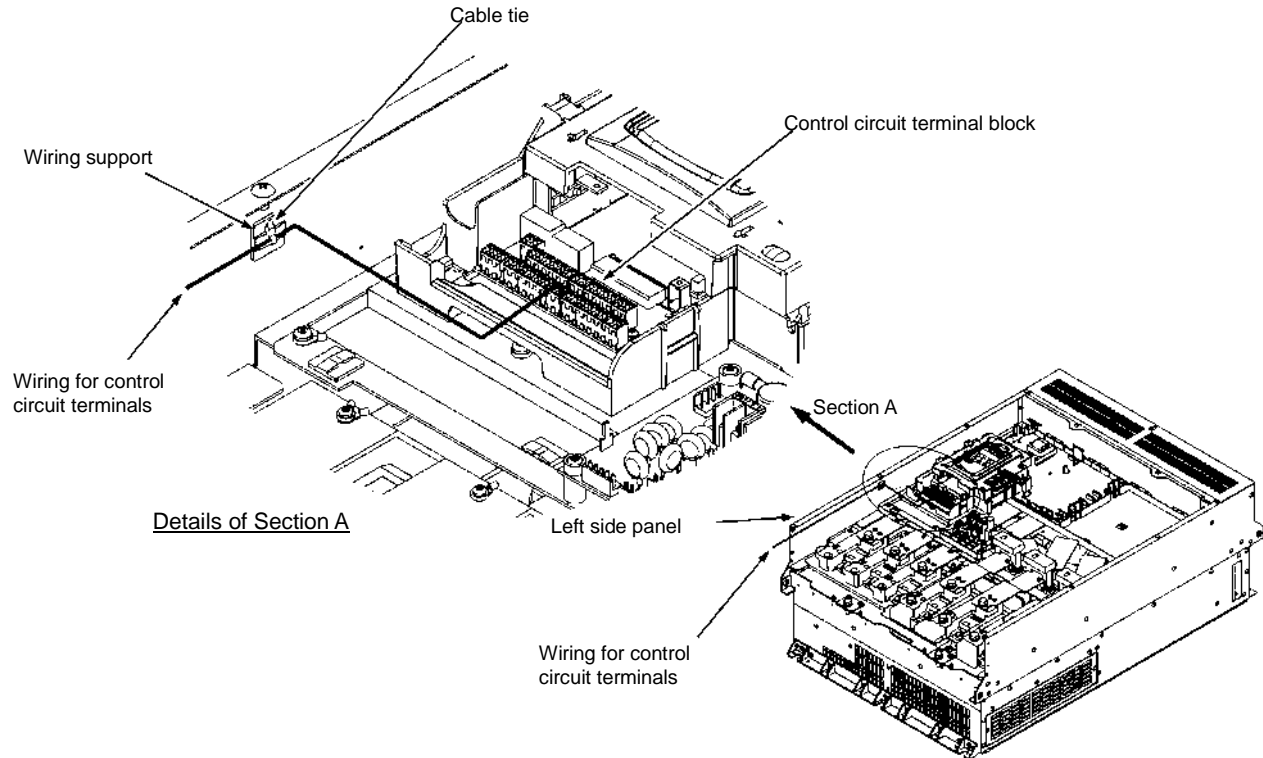

Figure 2.19 Wiring Route and Fixing Position for the Control Circuit Wires
- (1) As shown in Figure 2.19, route the control circuit wires along the left side panel to the outside of the inverter.
- (2) Secure those wires to the wiring support, using a cable tie (e.g., Insulok) with 0.15 inch (3.8 mm) or less in width and 0.059 inch (1.5 mm) or less in thickness.